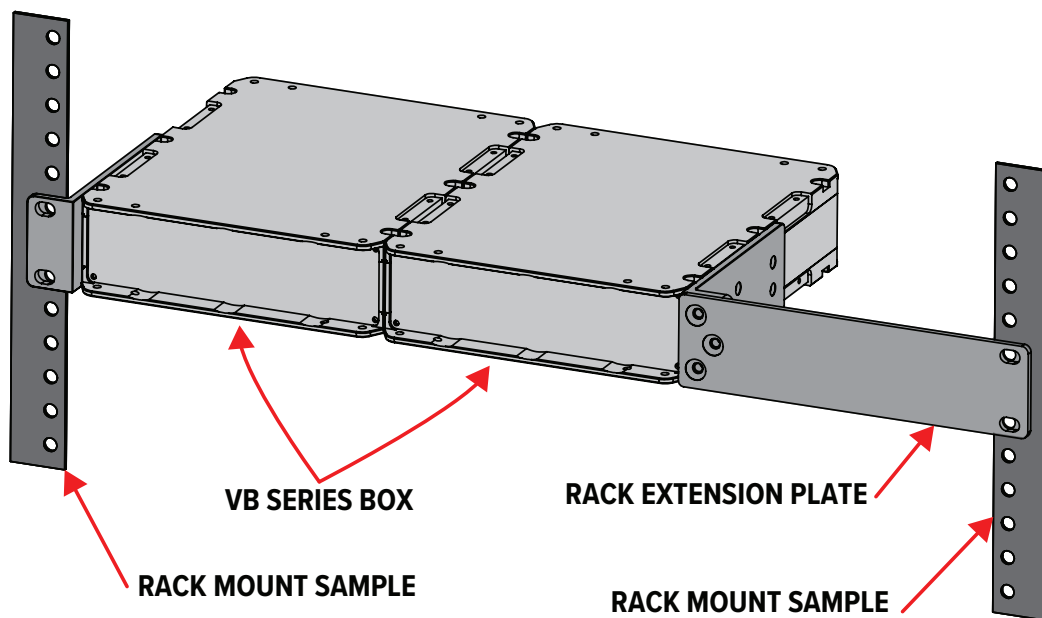

Figure 21. Two VB Box Horizontal Rack Mounting.
1. Place the VB Boxes on a clean flat surface, see Figure 21. At the rack where the VB Boxes are to be located make sure all wiring and loose equipment has been cleared away to avoid any obstructions. Make sure the front and rear portions of the rack are clear so that the wiring can be routed to the individual VB Boxes.